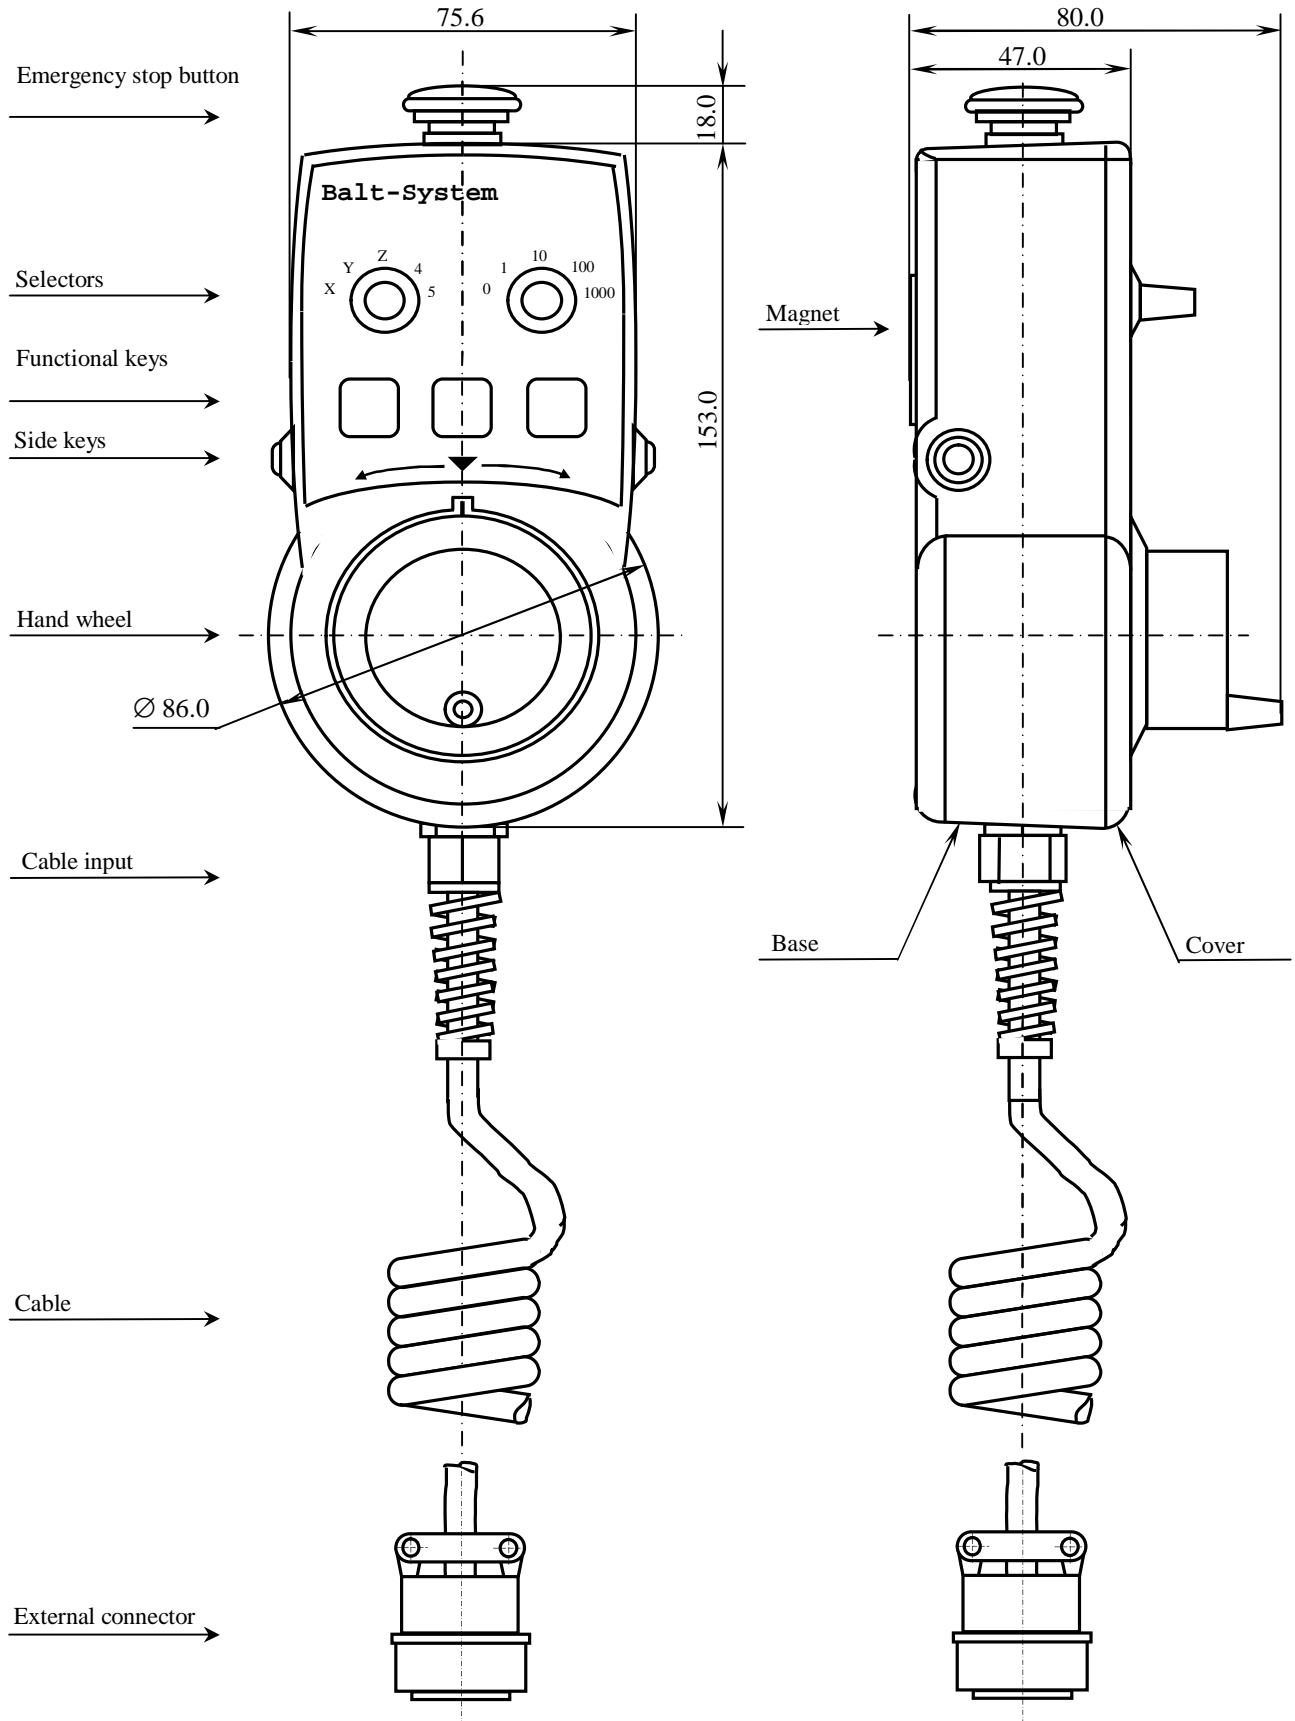

Figure E.4 – Basic Dimensions and Position of NC110-78B elements
15.2.2.1 The basic dimensions and positions of the HHPS NC110-78B elements are given in Figure E.4. The NC110-78B HHPS has a plastic outer case. This case consists of a base and a cover, which are joined together with six M3x15 screws. The cover mechanically serves as the front panel of the HHP Station.